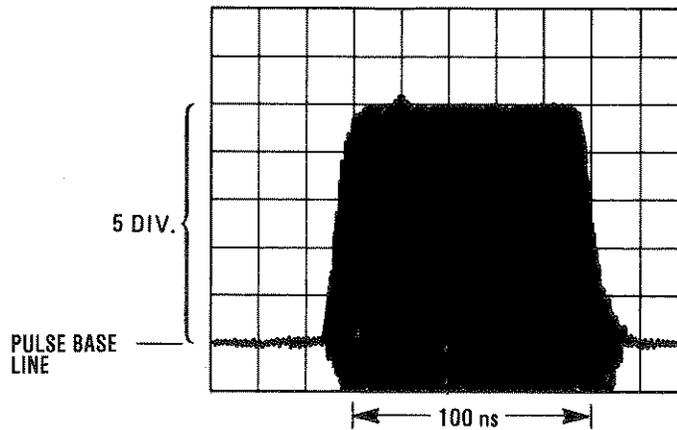

Figure 4-5. Risetime, Overshoot and Ringing Measurement
4. Center the 50 MHz RF pulse waveform on the oscilloscope display. Adjust the oscilloscope vertical position and sensitivity controls so that the pulse base line is one division from the bottom graticule line and 5 divisions high in peak amplitude. See Figure 4-5.
17. Center the waveform on the oscilloscope display. Adjust the oscilloscope vertical position and sensitivity controls so that the pulse base line is one division from the bottom graticule line, and 5 divisions in peak amplitude. See Figure 4-5. Measure rise time and overshoot. Record results in the following table.